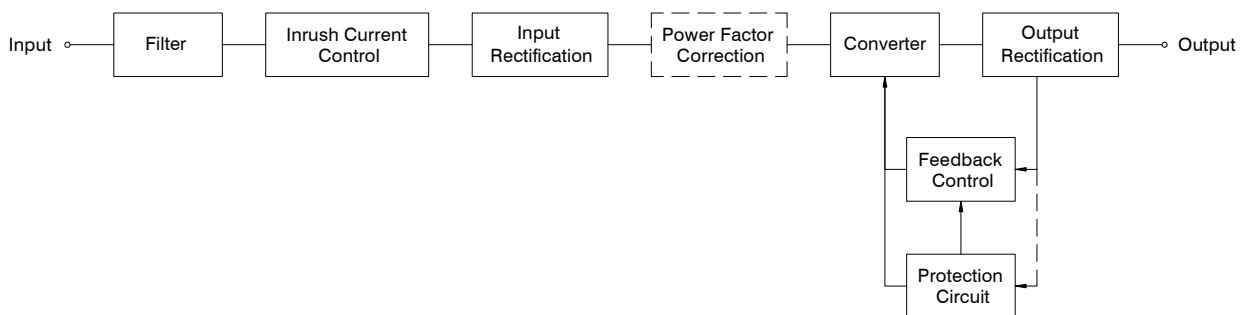

Figure 1.3 Block diagrams of a typical S.P.S.
(1) Switching power supplies mainly improve the weaknesses such as the huge volume, the heavy weight, and the low efficiency in linear power supplies. The topology of a switching power supply, as shown in figure 1.3, rectifies and filters the voltage directly from AC mains (off-line) without using a low-frequency transformer. The capacitance of the bulk capacitor can be quite small due to the high rectified voltage.